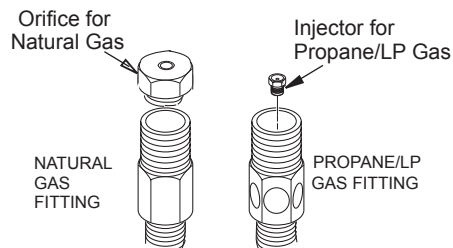

Figure 8 - Burner Inlet Fittings shown with orifice
- Remove Natural Gas inlet fitting from control valve assembly (see Figure 8). DO NOT remove orifice from this fitting. The Propane/LP burner inlet fitting is provided in the hardware kit (see Figure 8). Retain the removed Natural Gas components for future use.